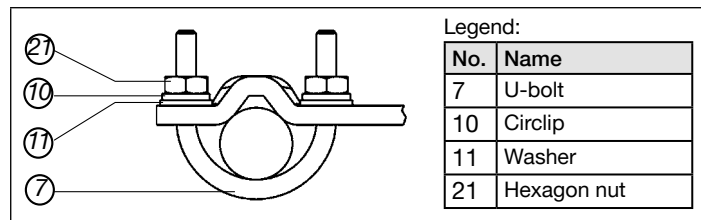

Fig. 10: Attach Type 8792/8793 with mounting bracket; for actuators with columnar yoke
→ Attach mounting bracket to the columnar yoke with the U-bolt ⑦, washers ⑪, circlips ⑩ and hexagon nuts ②① (see “Fig. 10”).